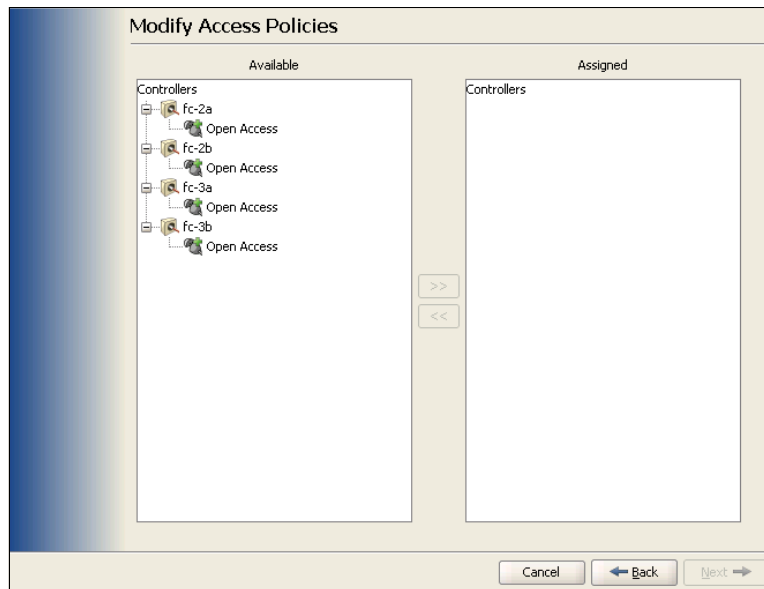

Figure 5-9 Modify Logical Unit Access by selecting ports
6. A window opens, as shown in Figure 5-9. Select the ports through which access should be provided. Select the ports and click the right arrow to move ports from Available to Assigned.